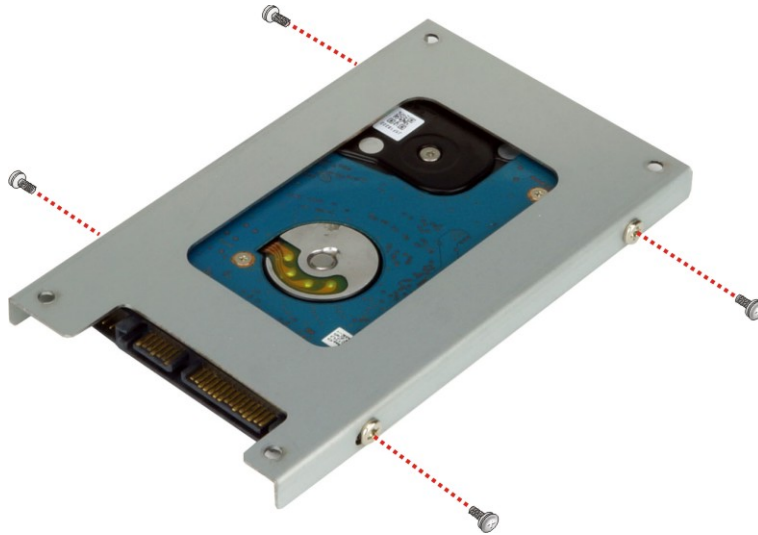

Figure 3-8: HDD Retention Screws
- Step 3:** Attach the HDD brackets to the HDD. To do this, align the four retention screw holes in the both sides of the HDD bracket with the retention screw holes on the sides of the HDD. Insert four retention screws into the HDD bracket (**Figure 3-8**).